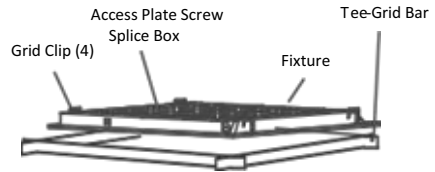

Fig. 2
2. Rotate & slide the fixture as required to fit through the tree Grid Bar and place it as indicated by the directional arrow as shown in Fig. 2.